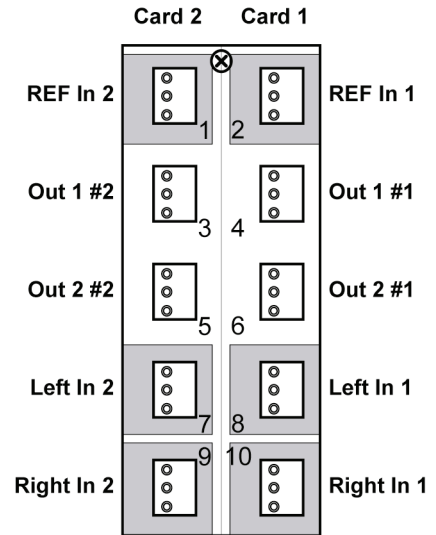

Figure 7. Cable Connections for the DFR-8320 frames with the R2AS-8432 Rear Module
- **R2AS-8432 Rear Module** — Each card occupies one slot and provides one 110 Ω AES/EBU external reference input, two 110 Ω AES/EBU outputs, and one stereo analog audio input. Refer to **Figure 7** for cable connections.